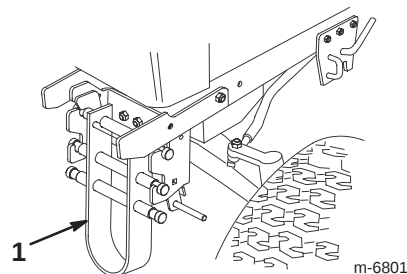

Figure 11
1. Insert the anti-sway bar into the front Attach-A-Matic until it locks into place (Fig. 11).